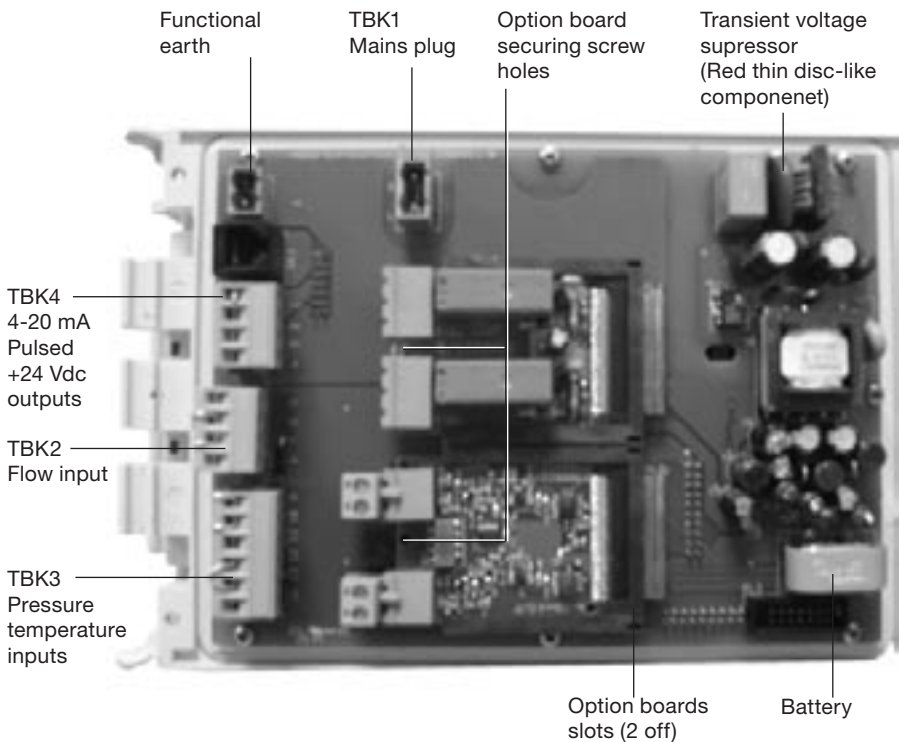

Fig. 15 General circuit board view
5. Carefully slide the option board into one of the two slots on the back of the front cover (Figure 15).